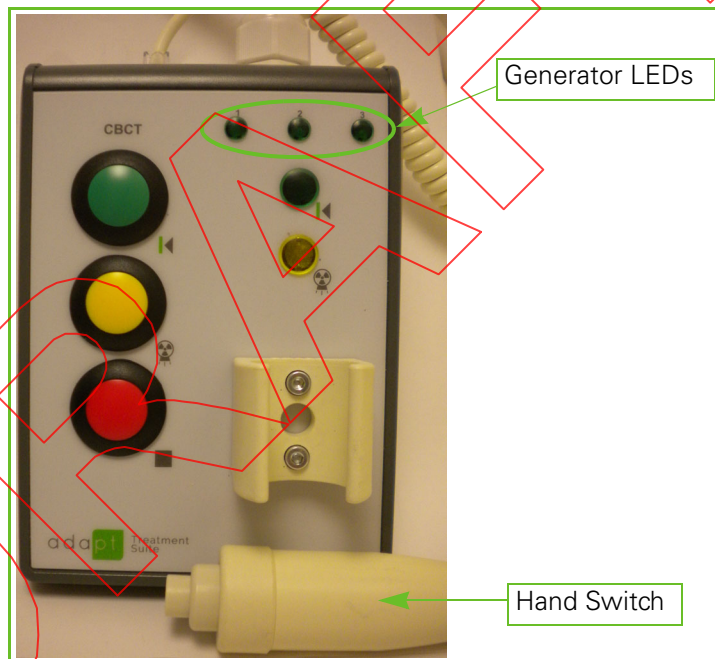

Figure 47-4. X-ray Console
4. On the hardware console, press **Green** button (see Figure 47-4).
6. When the gantry has reached its initial position, press the **Yellow** button (see Figure 47-4) on the hardware console.
9. When the acquisition is complete, a message appears on the adaPTinsight screen prompting to press the **Red** button. On the hardware console, press the **Red** button (see Figure 47-4).